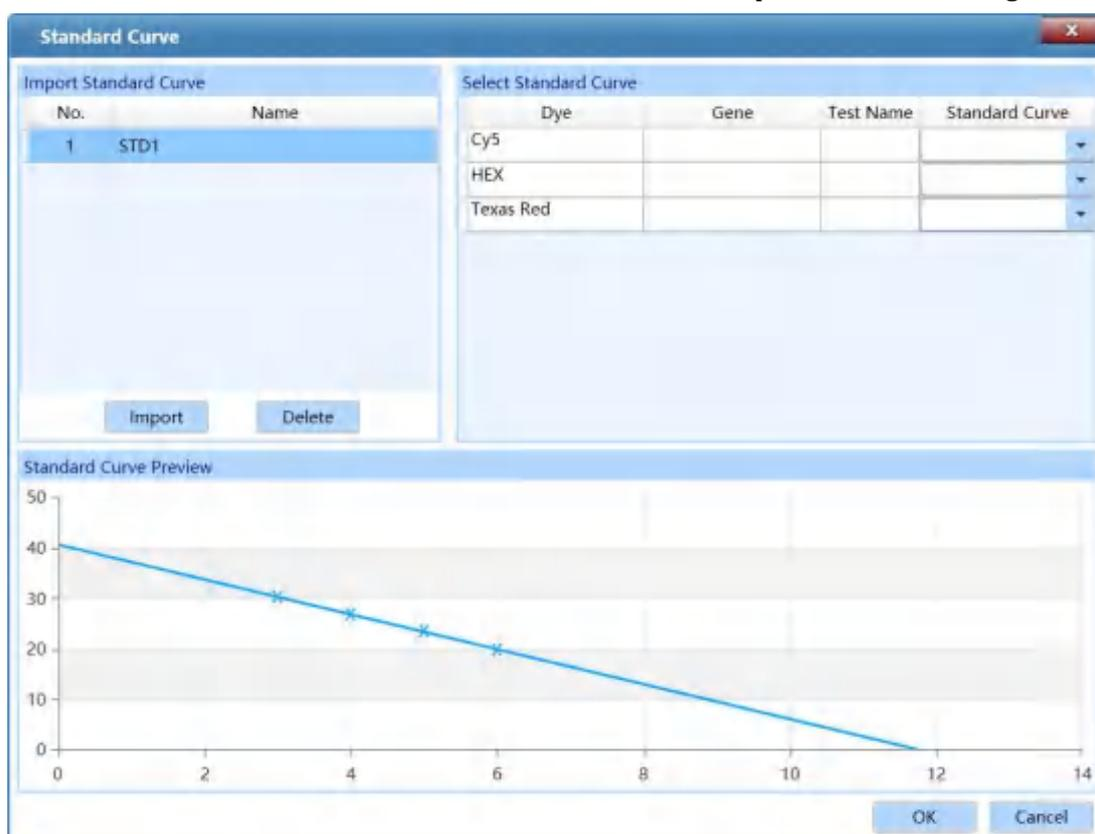

Figure D-8.2a. Abs Quant analysis interface - Standard Curve window
- < **Load Std Curve** >: click < **Load Std Curve** > and the application software will automatically pop up the standard curve window, which consists of **Import Standard Curve**, **Select Standard Curve** and **Standard Curve Preview** three parts, as shown in figure D-8.2a.